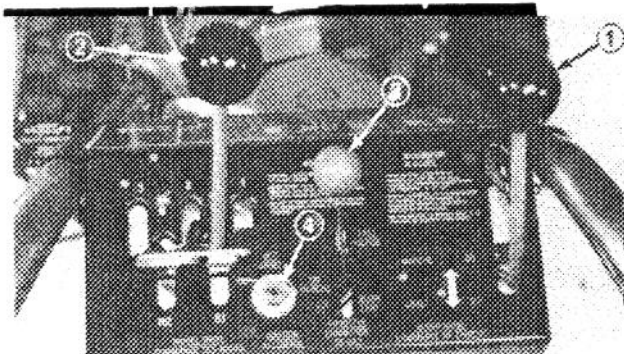

Figure 20
1. Move auger drive control to DISENGAGE (Fig. 20).
2. Move wheel drive control to N—neutral— and throttle to FAST (Fig. 20).
5. Rotate ignition key to ON (Fig. 20).